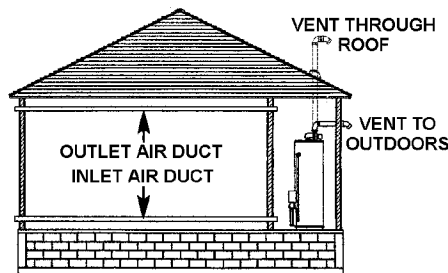

FIGURE 14.
3. When communicating with the outdoors through horizontal ducts, each opening shall have a minimum free area of 1 square inch per 2,000 Btu per hour (11 cm²/kW) of total input rating of all equipment in the enclosure, see Figure 14.
4. When ducts are used, they shall be of the same cross-sectional area as the free area of the openings to which they connect. The minimum short side dimension of rectangular air ducts shall not be less than 3 inches (7.6 cm), see Figure 14.